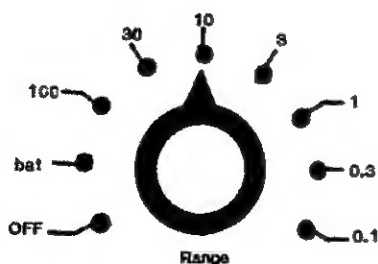

Figure 2. Corrections to be Made to Readings with Various Switch Positions to Give True Reading of Radiation
**3.4 Meter Readings** - The meter scale is calibrated in milliroentgens per hour (mR/h) when used with the standard model 491-30 Probe on  $^{137}\text{Cs}$  gamma radiation. The secondary scale on the meter face indicates approximate counts per minute (cpm). Multiply the scale reading by the range switch setting (X100, X30, etc.) to determine the dose rate. These corrections are illustrated in Figure 2.